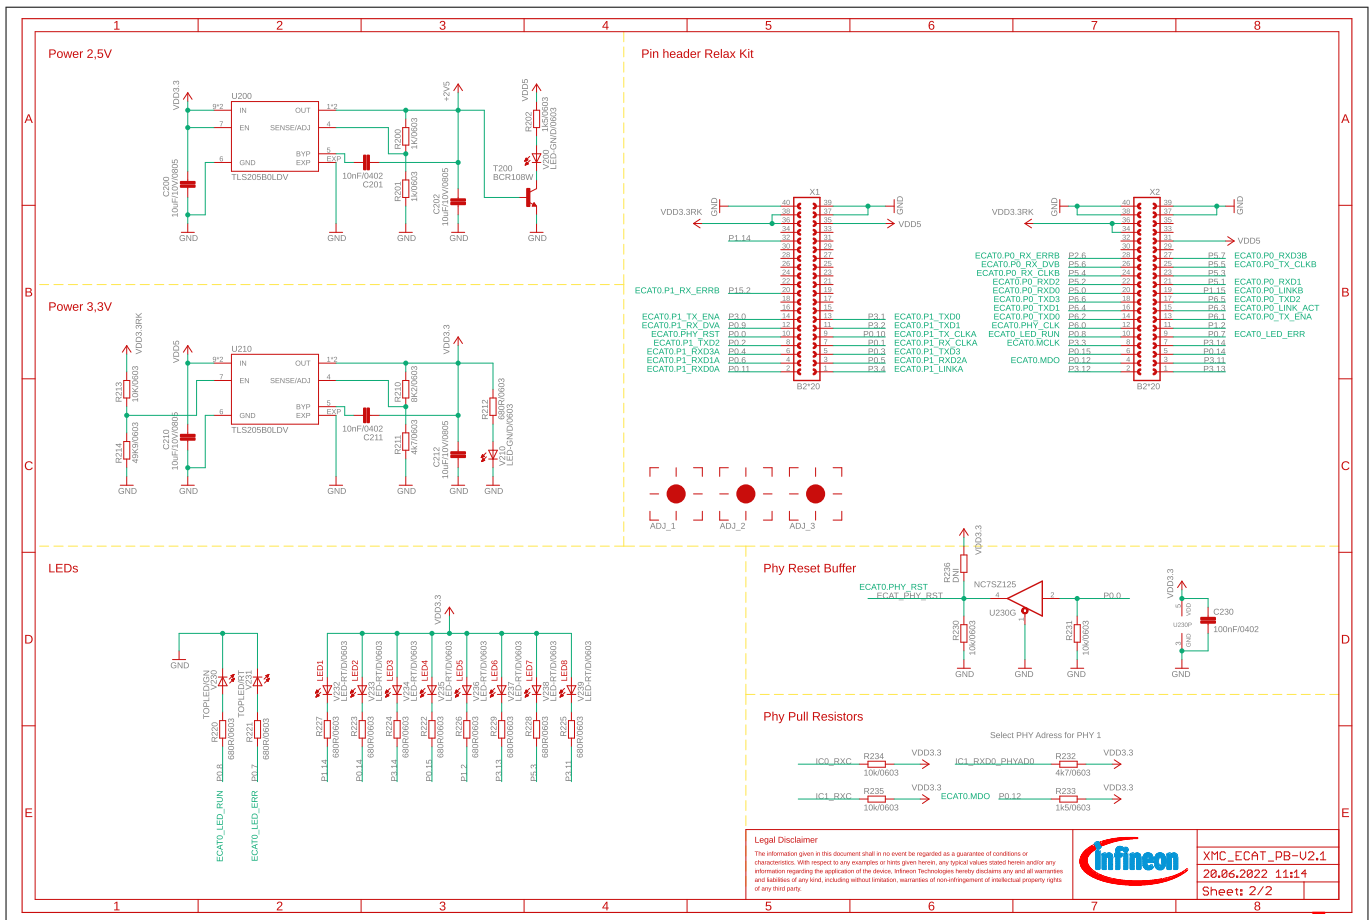

Figure 17 XMC™ EtherCAT Phy Board Schematic: Power, Connectors, LEDs (see Revision 1.4)
- Figure 17: XMC™ EtherCAT Phy Board Schematic: Power, Connectors, LEDs (see Revision 1.4)